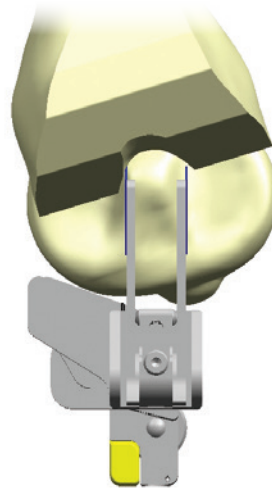

Figure 29
- 1 In Flexion, assemble the orientation stylus so that the arms line up with the provisional eminence marks (Figure 29). Lock the orientation stylus by pushing up on the gold locking cam.